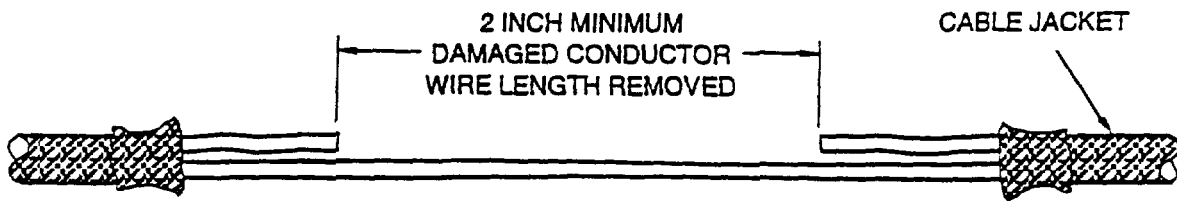
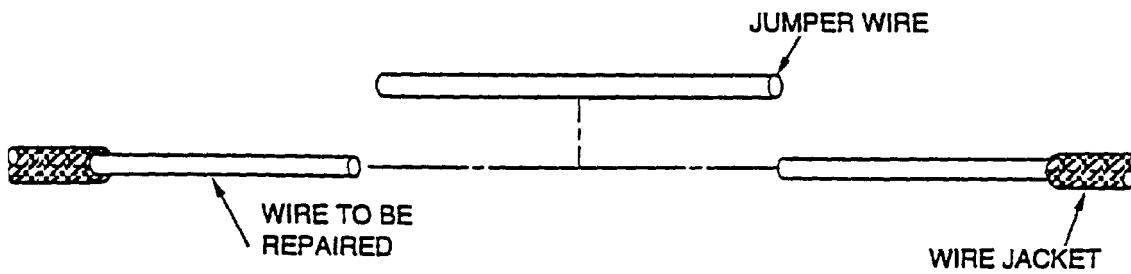

Figure 41. Single Wire Splice Repair
Figure 42. Jumper Wire Splice Repair
g. Repair the damaged wire in accordance with WP 013 00 and paragraph 38 or 39. If wire is damaged at a single point, and there is some slack in the wire, the existing wire can usually be repaired with a sealed splice (Figure 41). If a wire has damage along its length, the damaged segment must be cut out and replaced by a jumper wire installed using two splices (Figure 42).